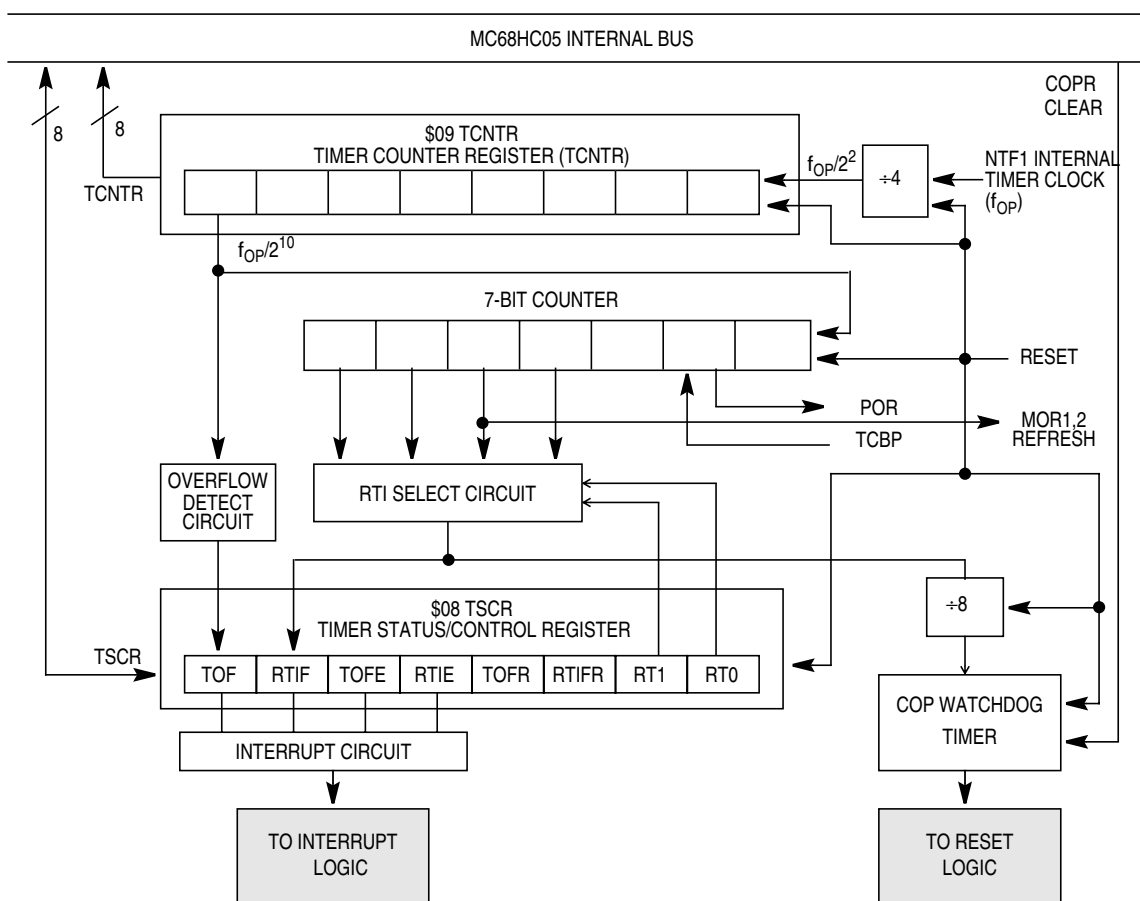

Figure 8-1. Timer Block Diagram
As shown in **Figure 8-1**, the timer is driven by the timer clock, NTF1, divided by four (4). NTF1 has the same phase and frequency as the processor bus clock, PH2, but is not stopped by the wait or halt modes. This signal drives an 8-bit ripple counter. The value of this 8-bit ripple counter can be read by the CPU at any time by accessing the timer counter register (TCNTR) at address \$09. A timer overflow function is implemented on the last stage of this counter, giving a possible interrupt at the rate of $f_{OP}/1024$. Two additional stages produce the POR function at $f_{OP}/4096$ or $f_{OP}/16$, followed by two more stages, with the resulting clock ($f_{OP}/16,384$) driving the real-time interrupt (RTI) circuit.